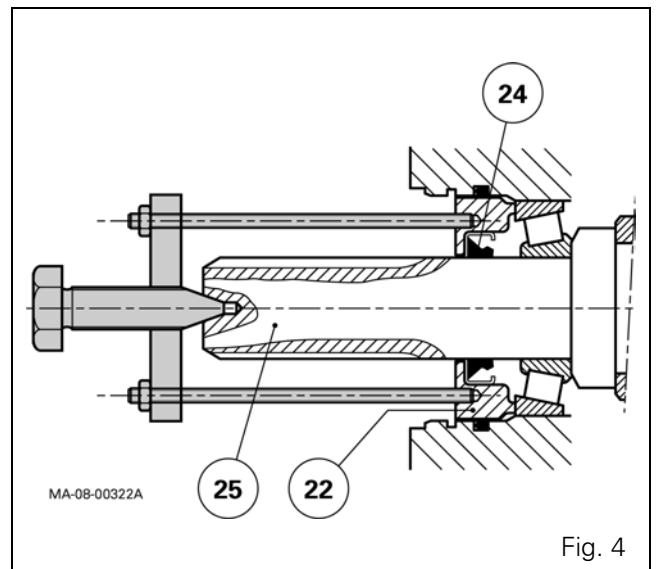
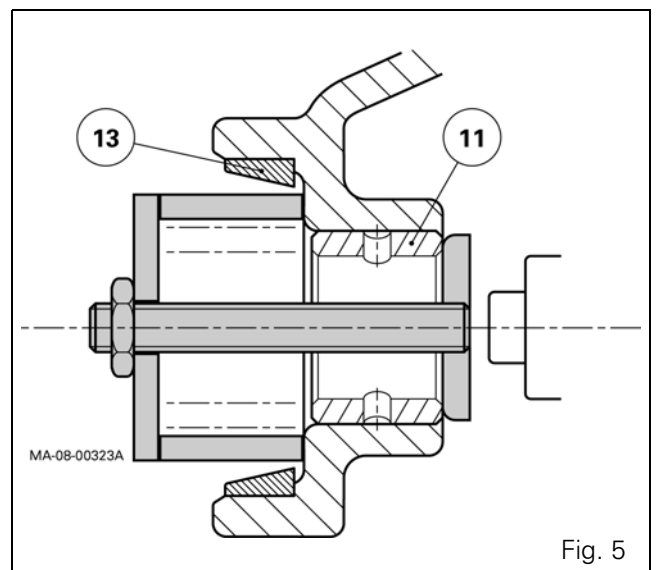

Fig. 4
Fig. 5
4. Take off circlip (23).
5. Protect the splined part of the shaft (25). Extract the cap (22) with its seal (24) with locally made tool (Fig. 4) (see § G). Remove seal (24).
6. Remove the O'ring (21).
7. Remove the shims (20) and the cup (18).
8. Extract the shaft assembly (25) and bearing cone (19), holding the clutch assembly (16) and bell gear (15).
9. Remove the clutch assembly (16) with the bell gear (15) and cone (14).
10. Using a locally made tool (see § G), extract the ring (11) (Fig. 5). This tool is mandatory for tractors with GSPTO. If necessary, also remove the cup (13) with a suitable extractor.